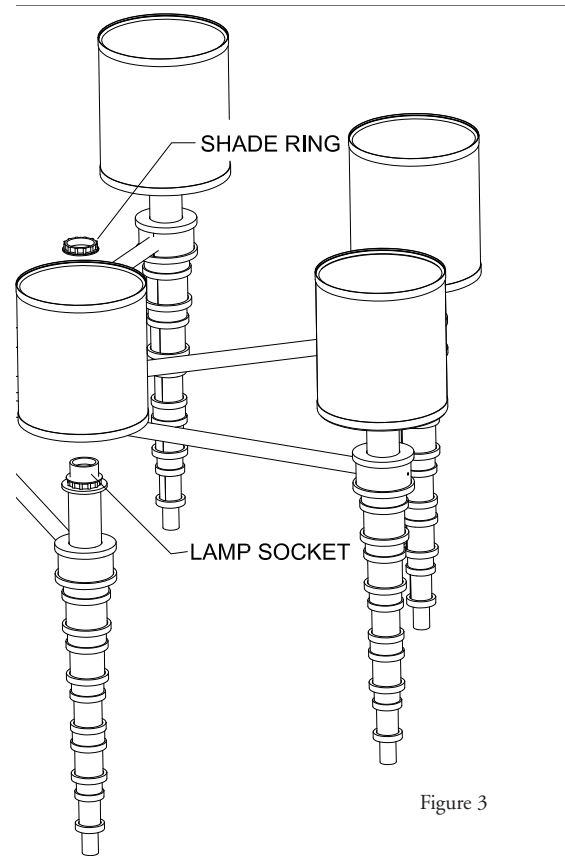

Figure 3
Step 9 Carefully lift the chandelier towards the junction box and attach the fixture hardware with the suspension components installed into the ceiling. (See Figure 3)
Step 12 Install the shade over the socket and secure into position with the shade ring. (See Figure 3)
Step 13 Install candelabra Base, Type B-10 lamps into the sockets and thread firmly into the socket. DO NOT exceed the relamp label recommendations. (See Figure 3)